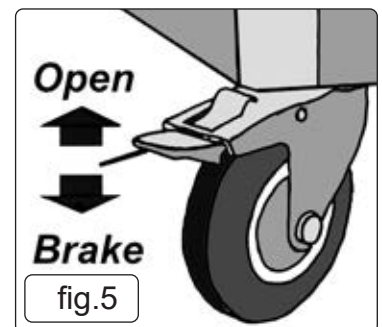

fig.5
- 5.1. When moving the rollcab, ensure that the drawers are closed and locked to prevent accidental opening. Release the brakes as shown in fig.5 and move the rollcab using the handles to maintain full control. When the rollcab has been moved to the required location, lock the brakes (fig.5).